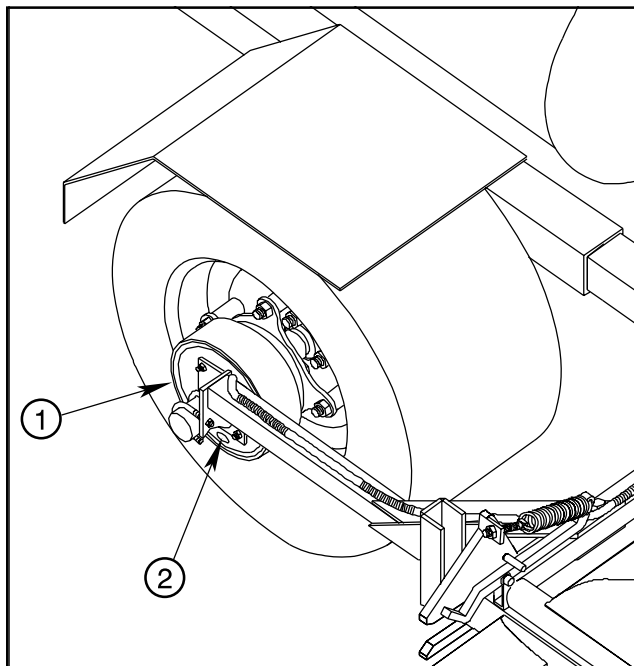

FIG. 5
2. Use a brake tool inserted through the slot in the drum to turn the adjusting star wheel, to expand the brake shoes within the drum. See FIG 5.